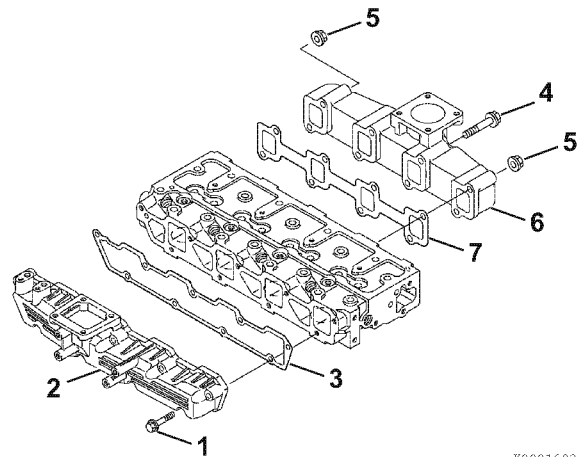

Figure 6-5
4. Remove the intake manifold bolts (1, **Figure 6-5**). Remove the intake manifold (2, **Figure 6-5**). Discard the intake manifold gasket (3, **Figure 6-5**).
5. Remove the exhaust manifold bolts (4, **Figure 6-5**) and nuts (5, **Figure 6-5**). Remove the exhaust manifold (6, **Figure 6-5**) and the exhaust manifold gasket (7, **Figure 6-5**).